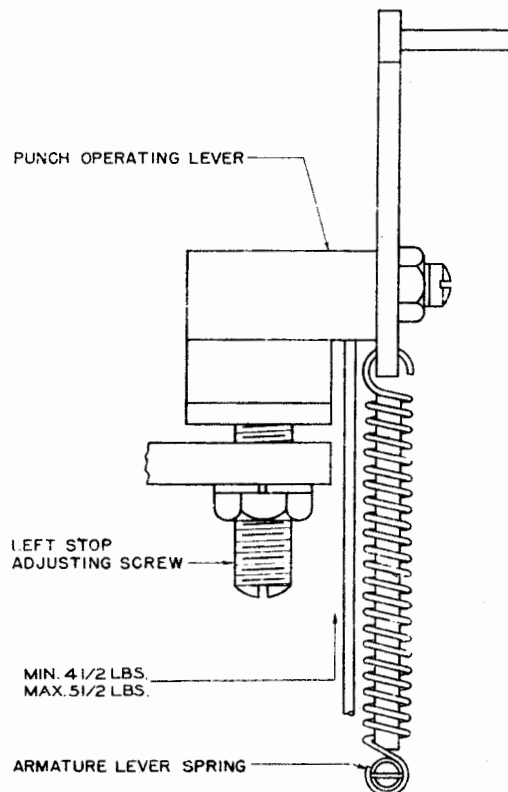

Figure 34
3.20 Armature-lever Spring on units not equipped with TP99037 modification kit should have a tension of minimum 4-1/2 pounds, maximum 5-1/2 pounds when the lever starts to move from its left stop. See Figure 34.